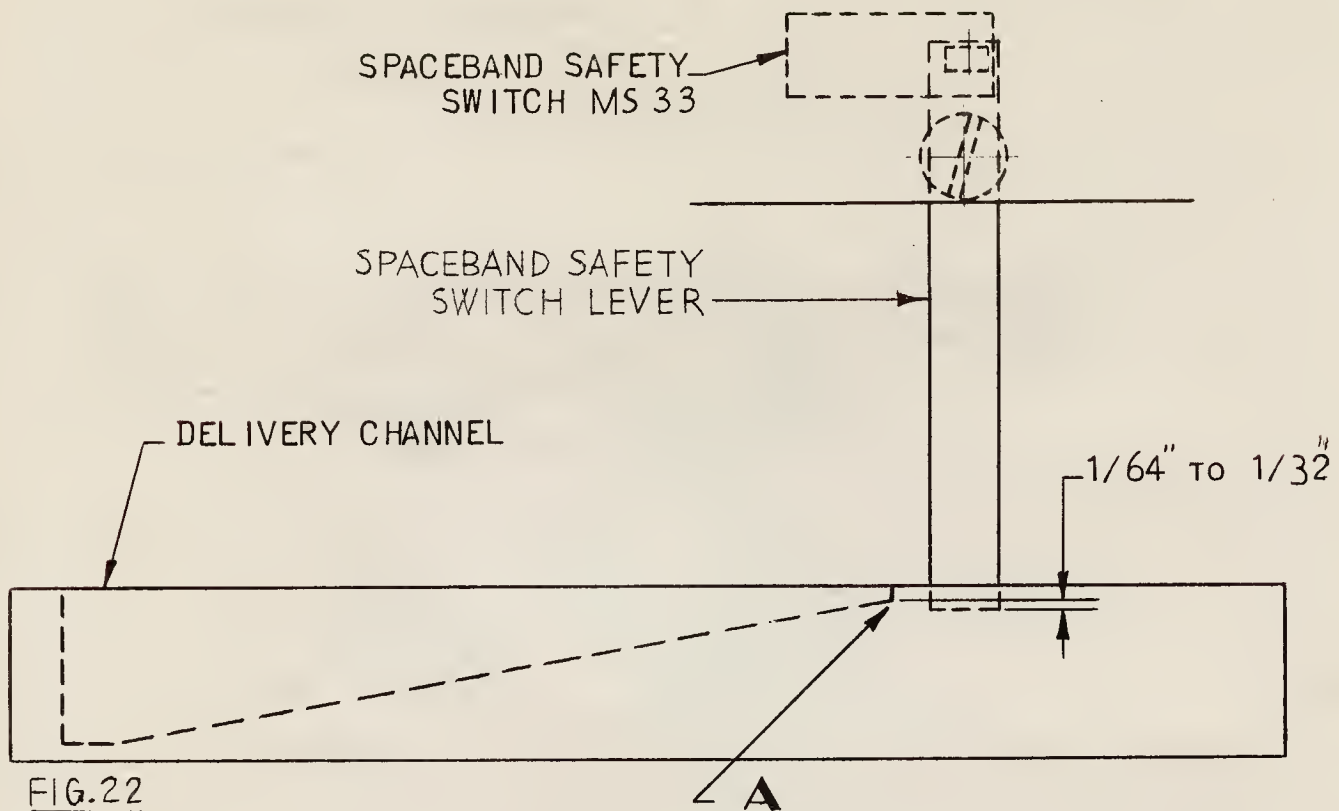

FIG.22
(D) MS 33 Spaceband Safety Switch Lever (Fig. 22)
MS 33 should be held actuated when the spaceband safety switch lever is in its normal vertical position and should be released when the bottom of the lever is moved to the left. (See Fig. 22).